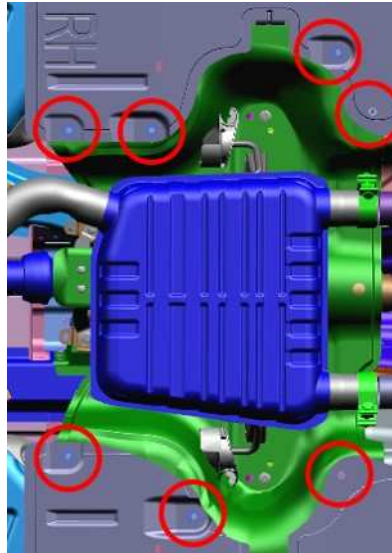

Fig. 20
8. Remove the fasteners securing the aero shields to the mid muffler heat shield (Fig. 20) .
11. Install the fasteners securing the aero shields to the mid muffler heat shield (Fig. 20) . Tighten the steel nuts to 6 N·m (53 in. lbs.).